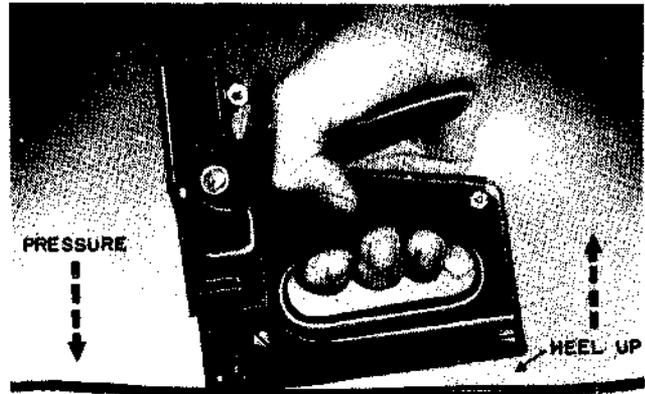

Fig. 3 – Holding Position for Markwell Stapler
3.03 To drive a staple, place the stapler squarely over the wire and hold it firmly against the surface into which the staple is to be driven. Depress the handle. After this, a new staple will move into position for the next operation. Lift the heel of stapler slightly away from the work so that all downward pressure is at the door end when the staple is driven. (Fig. 3.)